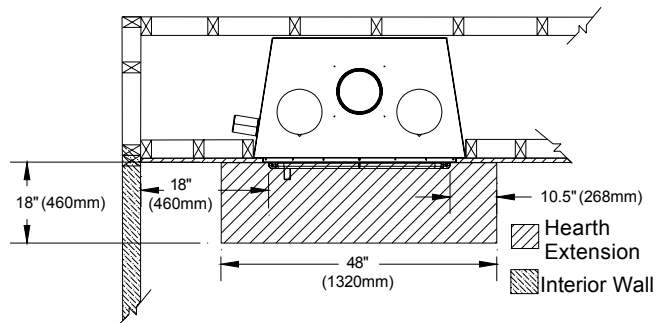
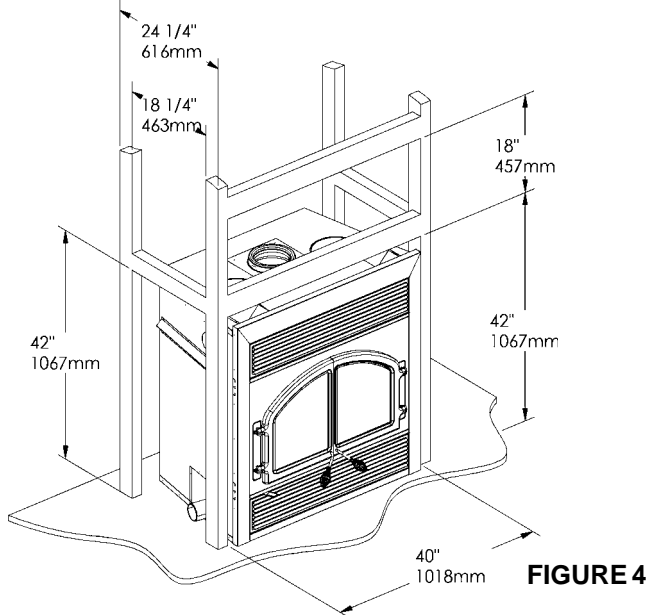

FIGURE 1
FIGURE 4
5. The minimum installed distance from the fireplace opening to an adjacent wall is 457mm (18"). See Figure 1.
8. The first length or elbow located directly on the top of the Fireplace must be secured with a minimum of three (3) #6X3/4" stainless sheet metal screws.
10. Joists should be fully framed at all levels, maintaining the required 50mm (2") minimum air space clearance from the outside of the chimney to the inside of the framing. See Figure 4 for minimum required framing.
Select the fireplace location taking into consideration such things as room size, traffic patterns, location of doors and windows, chimney location, and required clearances to sidewalls(See Figure 1). With proper planning, slight adjustments now can save considerable time and expense later.
Once the fireplace and chimney installation locations have been chosen, remove any combustible materials such as carpeting or vinyl floors from where the fireplace will be positioned. An area for the hearth extension must also be removed 268mm (10-1/2") on both sides of the fireplace opening and 460mm (18") in front of the fireplace (See figure 1).
The fireplace framing and enclosure can be finished using a material of your choice (2X3 or 2X4 studs, plywood, gyproc, etc). Figure 4 shows the minimum framing dimensions.